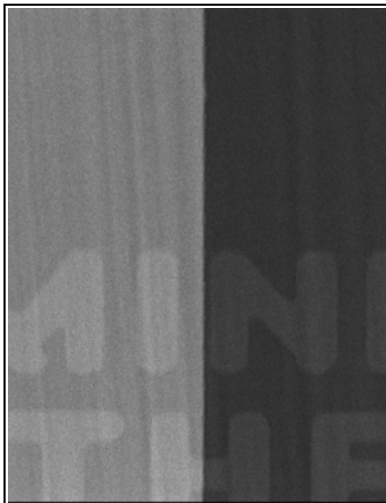

Fig.3: Ellipsometric contrast image focused by objective scan, 55° angle of incidence, 781 nm wavelength, 350 μm x 450 μm field of view, 2 μm lateral resolution
- Record a well focussed contrast image (fig.3)
A delta map is obtained in the EP3-View software from recording a series of images with variable contrast, i.e. variable polarizer angle. Each of these images (fig.3) is well focussed due to Nanofilm's unique objective scanner. The polarizer angles of signal minimum are interpolated for each pixel of the field of view. The map of minimum angles is converted into a delta map by a formula of nulling ellipsometry. The conversion of the delta map into the thickness map (fig.4, 5) uses the same fitting algorithm as explained above. Since the layer thickness is said to vary from 30 to 90 nm. A short wavelength e.g. 532 nm would cause an ambiguity in the relation of the observable Delta and the layer thickness. A unique relation is necessary for the calculation of the thickness map from the Delta map. Therefore a long wavelength, i.e. 781 nm, is selected for the recording of the delta map and the fit range for the thickness is limited on 30-100 nm.